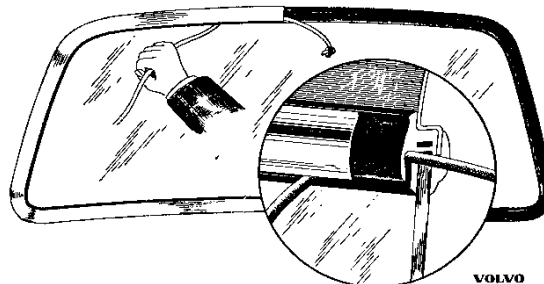

Fig. 35. Fitting the trim moulding.
1. Place a thong or cord in the groove of the rubber strip in the same way as when fitting the glass, see Fig. 35. It is assumed that the glass is fitted in the body.
2. The projection of the trim moulding is then pressed down into the groove of the rubber strip, after which the leather thong is pulled out. The edge of the rubber strip will then "creep" up over the sealing strip, see Fig. 35.